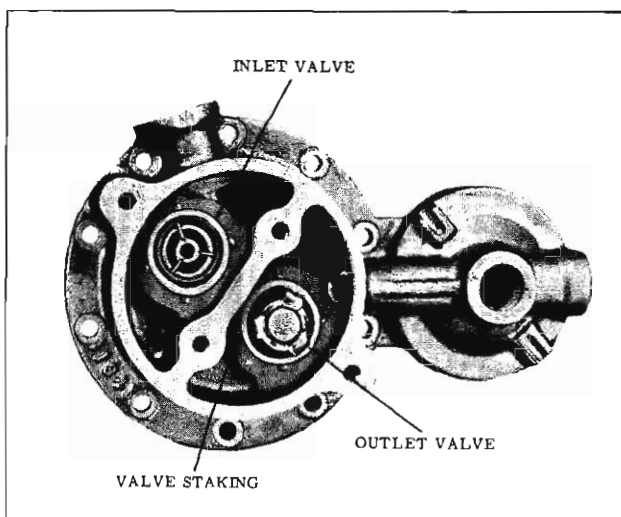

Fig. 3-61 Fuel Inlet and Outlet Valves
- If valves are to be replaced, remove the staking, then remove the inlet and outlet valves and gaskets from the fuel cover. (Fig. 3-61)
4. Place valve gaskets in recesses provided in fuel cover. Install valves as shown in Fig. 3-61 and stake in place.